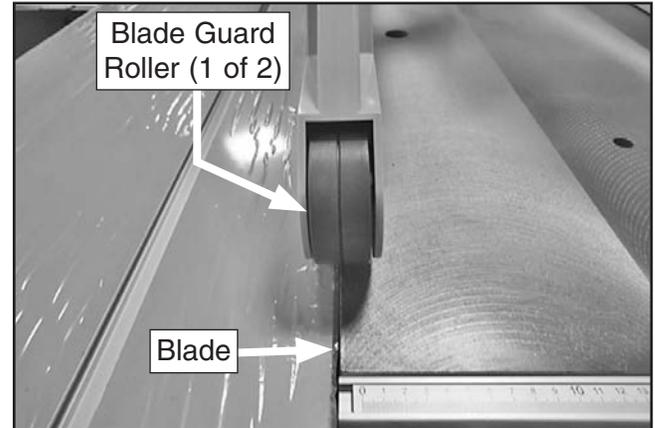

Figure 59. Blade guard rollers centered over blade.
69. Slide upper support arm until at least one blade guard roller is centered over blade (see **Figure 59**), then tighten hex bolt from **Step 65** on **Page 35** to secure upper support arm.
70. Ensure front and rear blade guard rollers are parallel with blade (see **Figure 59**).